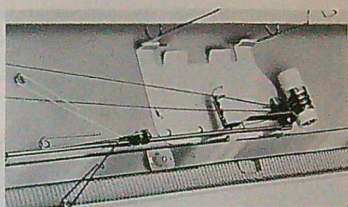

Fig. 5
b. Replace the automatic yarn tension unit as shown in Fig.5.